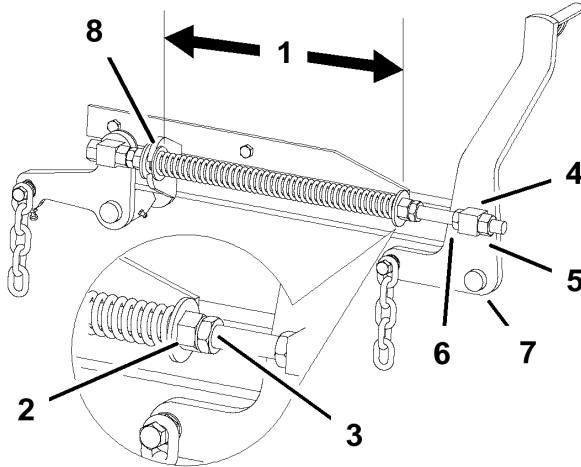

Figure 70
2. Check the distance between the two large washers, it needs to be 11-1/2 inches (29.2 cm) (Figure 70).
3. Adjust this distance, by loosening the spring jam nut and turning the nut in front of each spring (Figure 70). Turning the nut clockwise will shorten the spring; counter-clockwise will lengthen the spring.
4. Lock the nut into position by tightening the spring jam nut (Figure 70).